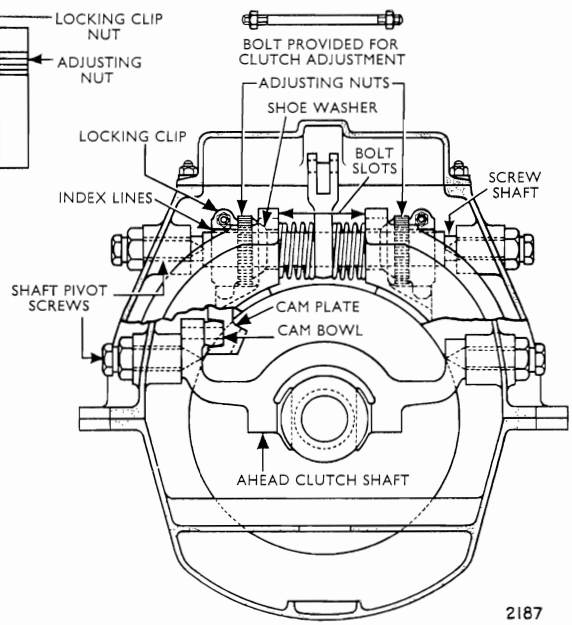

Fig. 5
11. **Astern Clutch or Brake.**—This clutch takes the form of a brake having a pair of cast iron brake shoes lined with friction fabric. The shoes are anchored and hinged at the bottom of the gearbox and their upper ends are contracted by means of a right and left hand screw shaft which is held endwise between two adjustable pivot screws in the upper part of the gearbox. It will be seen from Fig. 5 that if the two adjusting nuts are set equally no disturbance of alignment of the rotating gearcase and mainshaft can take place. For this reason it is very important to adjust the two nuts so that the brake shoes make equal and simultaneous contact with the drum when contracted.
12. **Preliminary Setting of Astern Clutch Brake Shoes.**—Put the gear into “reverse” and remove the gearcase cover. Slacken the bolts of the two locking clips (see Fig. 5) and unscrew the adjusting nuts clear of the shoes. Note that one has a right-hand and the other a left-hand thread. Insert the long bolt, provided in the tool kit, in the slots at the top of the brake shoes and lightly clamp the shoes on to the drum by tightening the nut and bolt. Turn one adjusting nut until it is in contact with the shoe washer and holding it in this position tighten the locking collar. Repeat the same operation on the other adjusting nut. With the two adjusting nuts equally positioned and the brake shoes centralised, final adjustment of the astern clutch can now be effected.
14. **Clutch Mechanism.**—The three shafts of this mechanism, i.e. the astern clutch screw shaft, the cam plate crank or shaft, and the ahead clutch shaft are carried by adjustable pivot screws, see Fig. 5. All three shafts are made so that they can be located endwise between their bosses on the gear case walls. To adjust these shaft pivots, proceed as follows:—